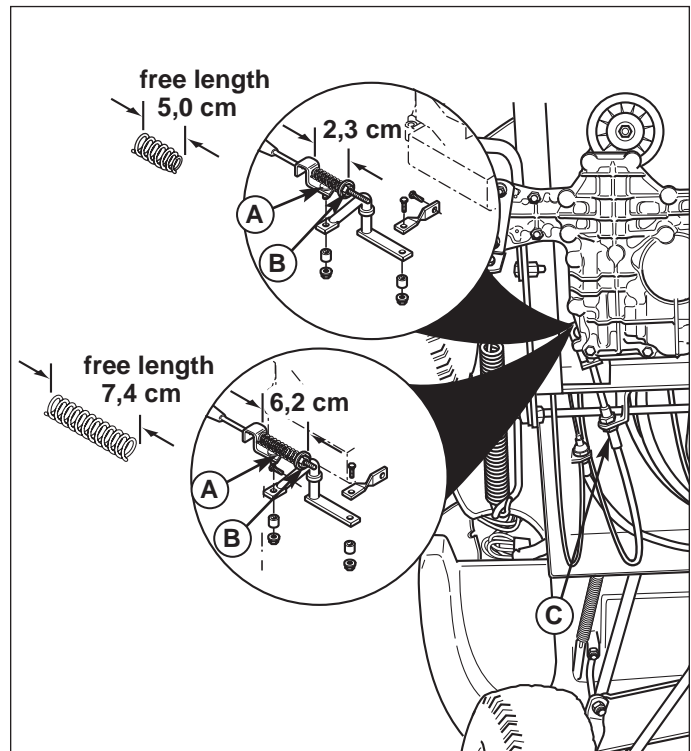

Figure 23. Brake Spring Adjustment
2. Locate the brake spring (A, Figure 23). With the parking brake engaged, measure the compressed spring length. The spring should be 2-7/16 (6,2 cm) or 1-1/4" (3,2 cm) when compressed.
If necessary, use the adjustment nuts (C, Figure 23) to lengthen or shorten the cable sheath to archive the correct compressed spring length.